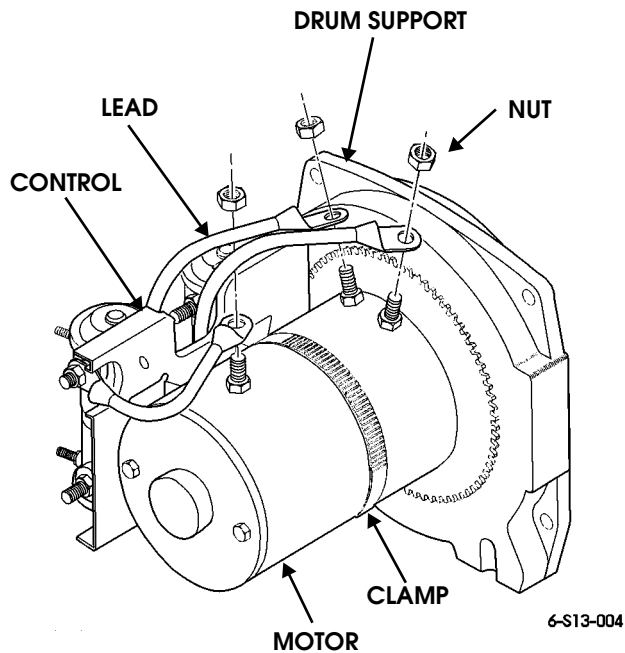

Figure 13-6: Control Leads
2. Remove three nuts and control leads from motor (Figure 13-6).